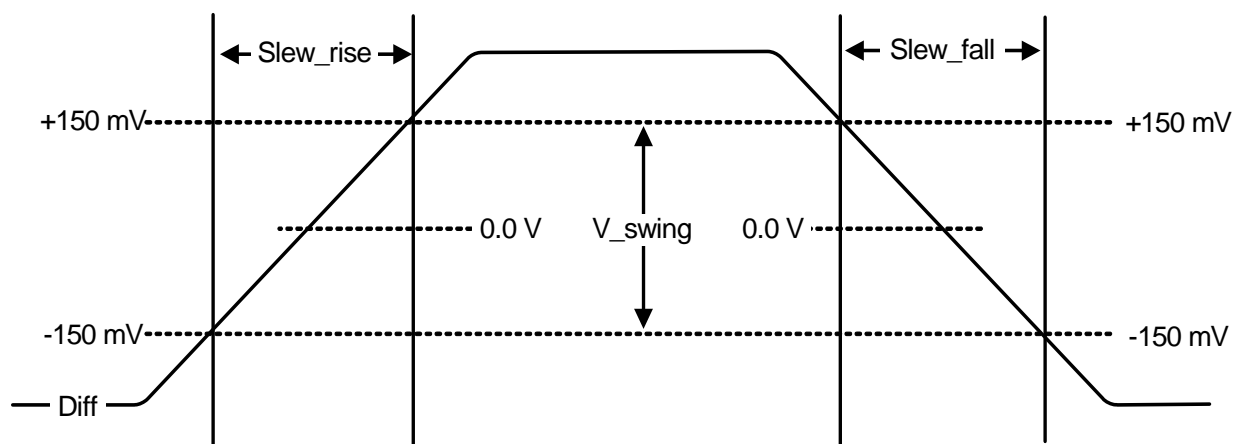

Figure 3. Measurement Points for Rise Time and Fall Time
17. Vcross(rel) Min and Max are derived using the following, Vcross(rel) Min = 0.250 + 0.5 (Vhavg - 0.700), Vcross(rel) Max = 0.550 - 0.5 (0.700 - Vhavg), (see Figures 3–4 for further clarification).